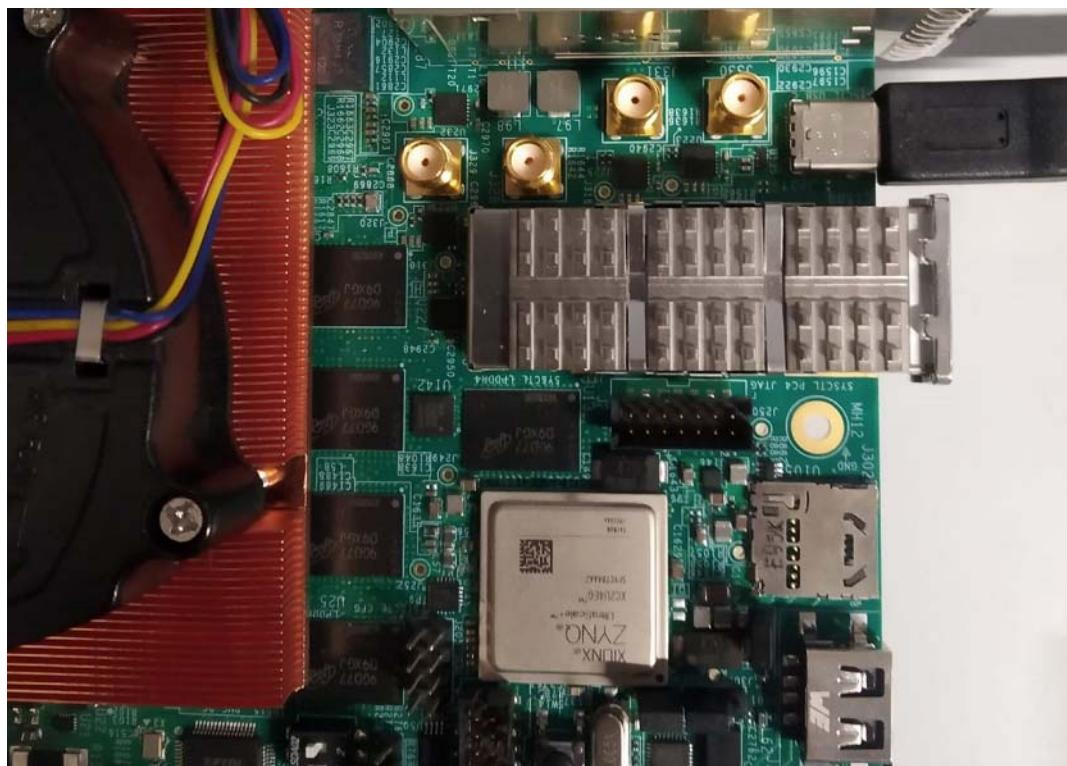

Figure 5-10: HDMI Connections
- b. Connect the HDMI cable to the VCK190 HDMI port (Figure 5-10).